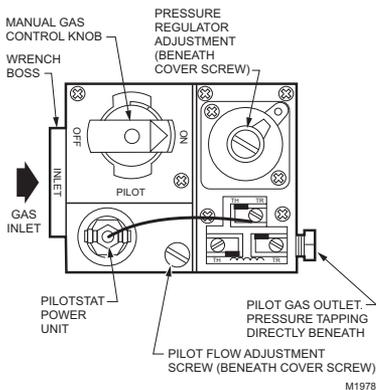

Fig. 1. Top view of standard capacity combination gas control.
2. Remove regulator cap screw and pressure regulator adjusting screw. See Fig. 1.
- Remove pilot adjustment cover screw (see Fig. 1).
- Remove outlet pressure tap plug from gas control and connect pressure gauge. See Fig. 1.